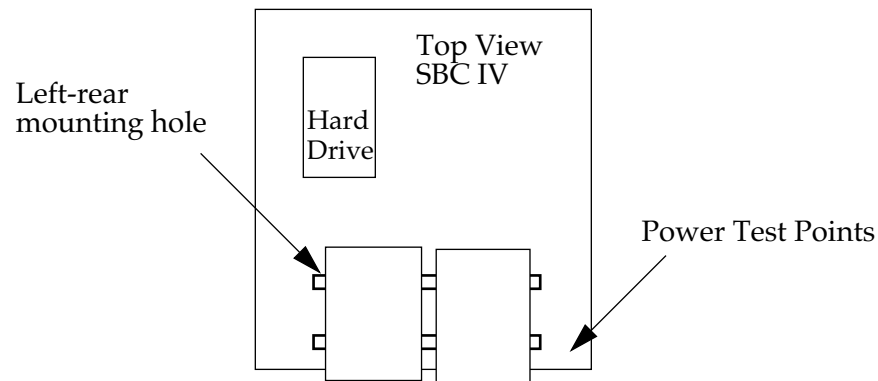

Figure 1
3. Locate the metal brackets which hold the floppy disk drives to the SBC board. Turn the board over and locate the 8 Phillips screws which hold the brackets to the board. Loosen the screw nearest the power test points at the front of the module. Remove the remaining 7 of the bracket screws. See Figure 1 below.